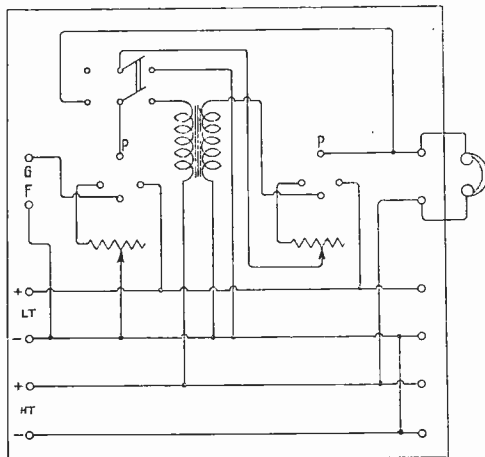

Fig. 1. Two-valve note magnifier panel. A switch is provided to cut out the last valve when required.
(1) The diagram submitted is correct. (2) A suitable diagram is given in Fig. 1. (3) We believe most manufacturers connect plug-in transformers as indicated in the diagram submitted, but we would not like to say that the method is a standard one.